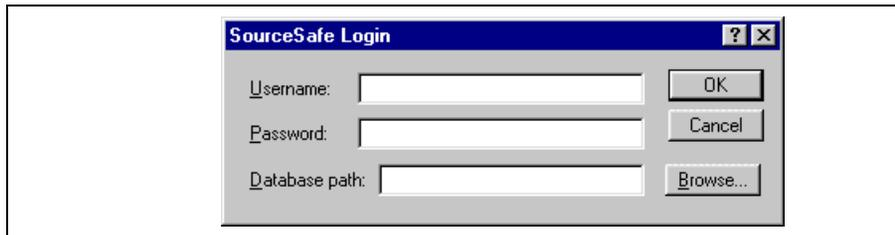

Figure 9.1: SourceSafe Login Dialog
3. Click “**OK**” to confirm the selection. The SourceSafe Login dialog is displayed * MERGEFORMAT (figure 9.1).